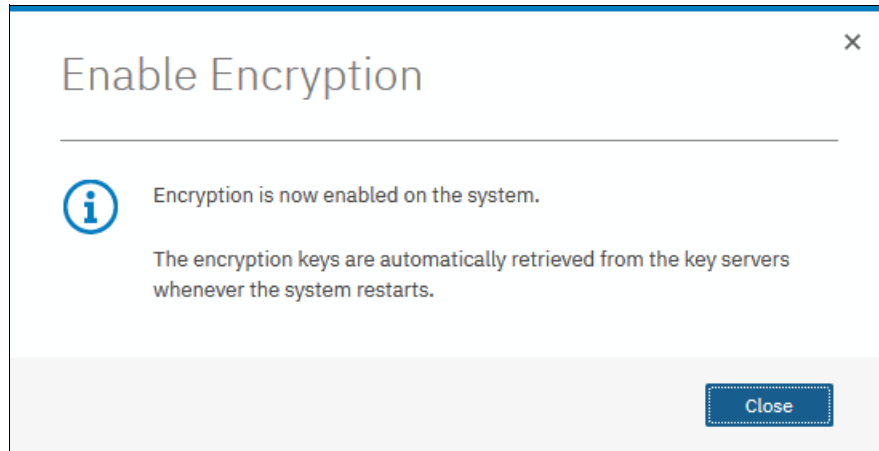

Figure 13-48 Encryption enabled using SafeNet KeySecure key servers
- If no errors occur while creating the key server object, you receive a message that confirms that the encryption is now enabled on the system, as shown in Figure 13-48. Click **Close**.